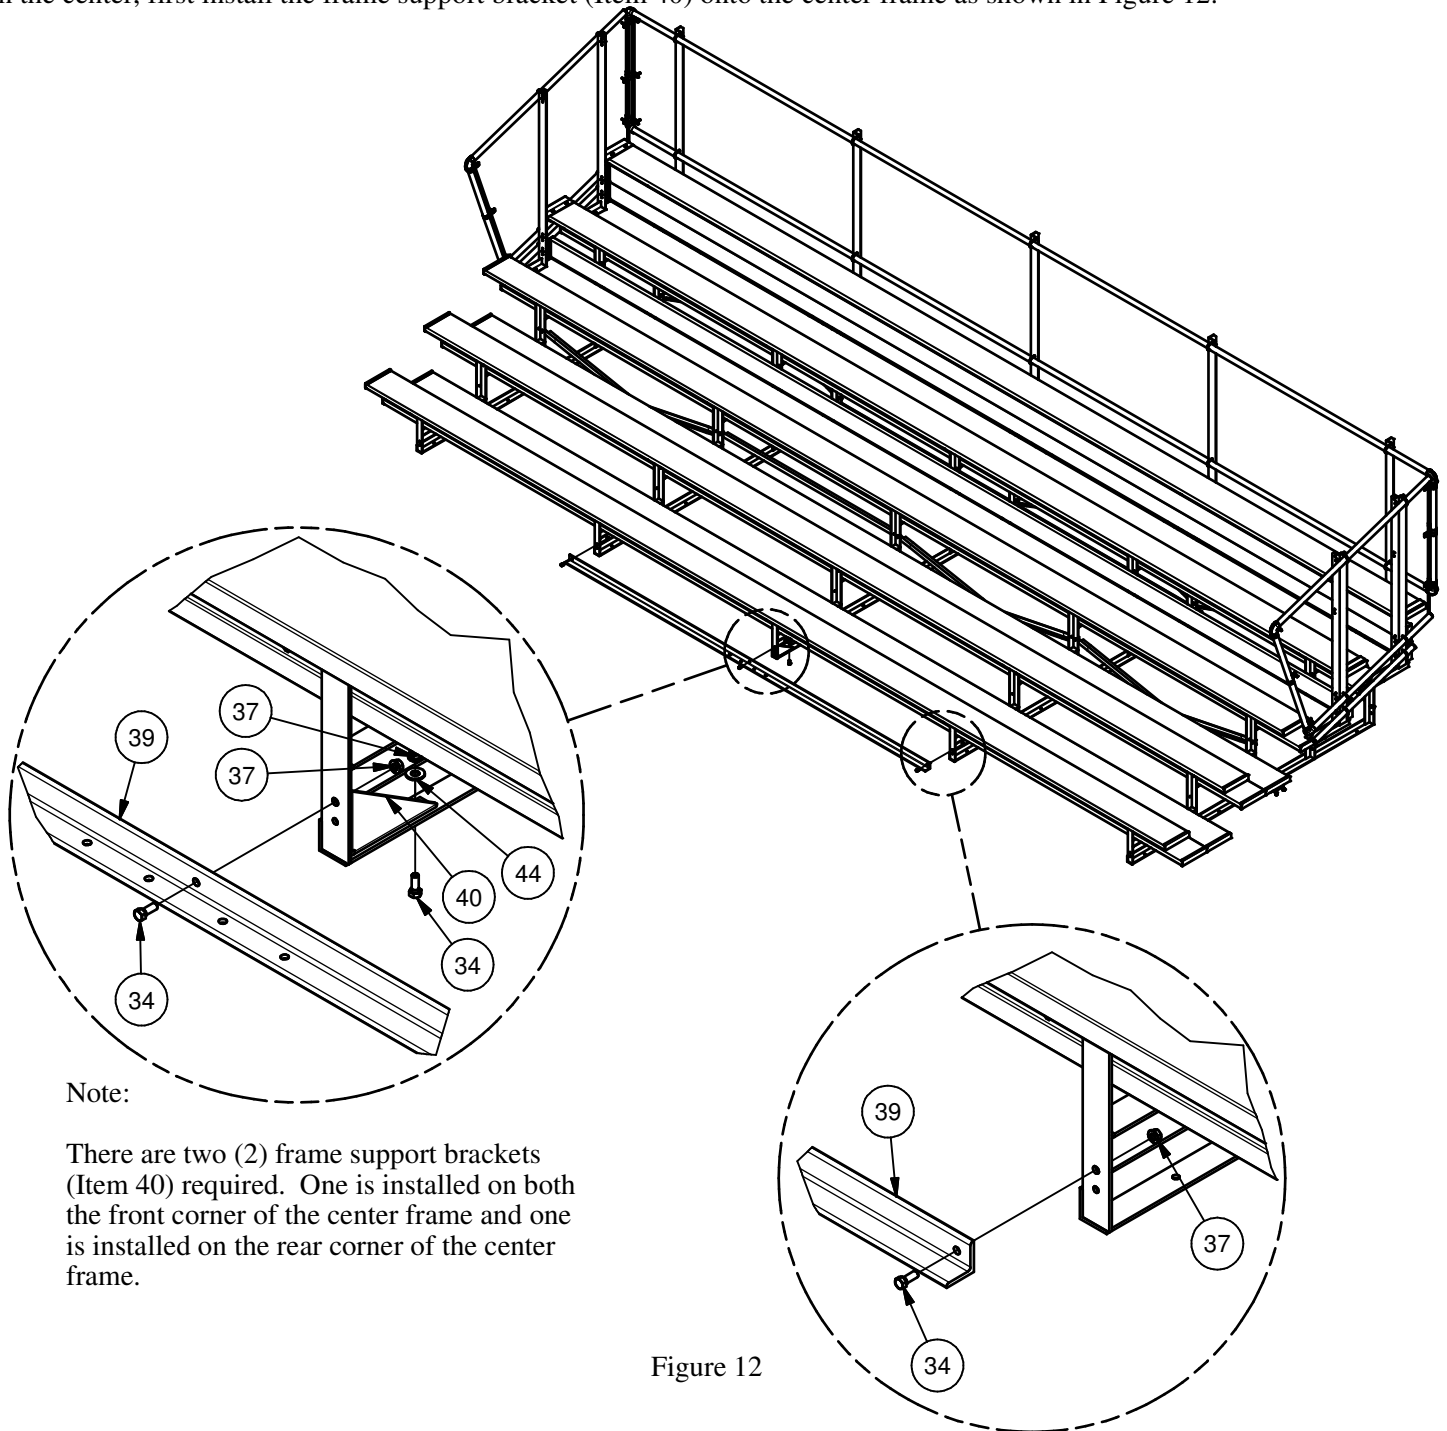

Figure 12
21. Install the transport axle support angles on the front and rear of the frames. On the front frame, use the top hole in each frame for mounting the angle. There is only one hole in the rear frame for mounting the angles. Before installing the bolt in the center, first install the frame support bracket (Item 40) onto the center frame as shown in Figure 12.